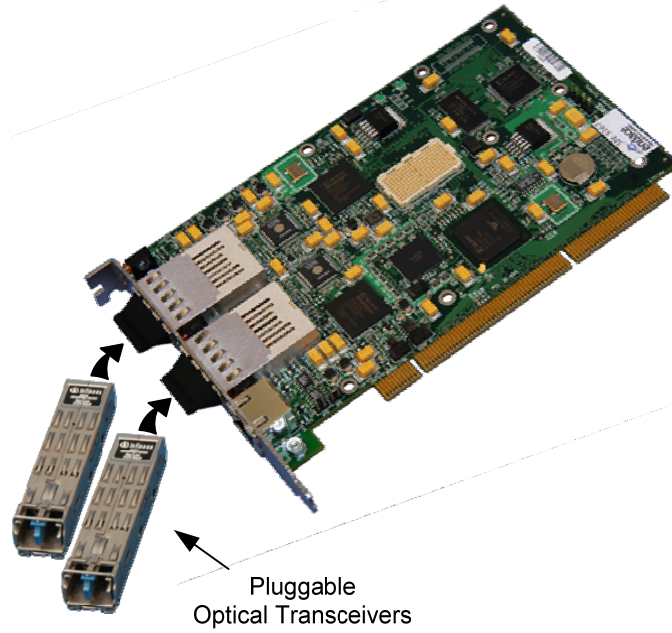

Figure 2-1. Pluggable Optical Transceivers.
**Figure** Figure 2-1 shows the pluggable optical transceivers.